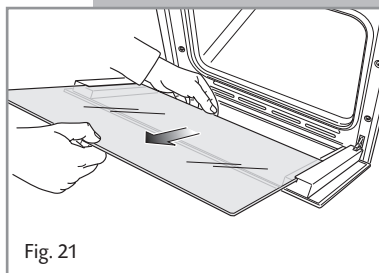

Fig. 21
- Gently pull out the inner pane of glass (Fig. 21).